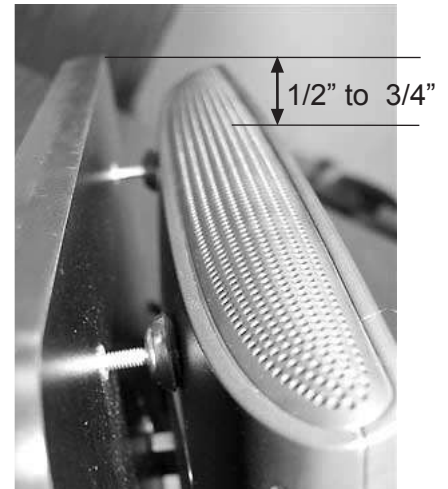

Figure 9
Three (3) Pressure Pods are screwed into metal inserts in the Rotating Desktop Panel. Turn each Pressure Pod counter-clockwise to adjust their height so the LCD flat display is parallel to the Rotating Desktop Panel. Hand-tightening is all that is required to exert the proper back pressure to keep the LCD flat display in position and cushion it when the Rotating Desktop Panel is opened and closed. Carefully test the mechanism before putting the unit into use by opening and closing the Rotating Desktop Panel to be sure the LCD flat display is properly positioned and the Pressure Pods are adjusted correctly (Fig. 9).